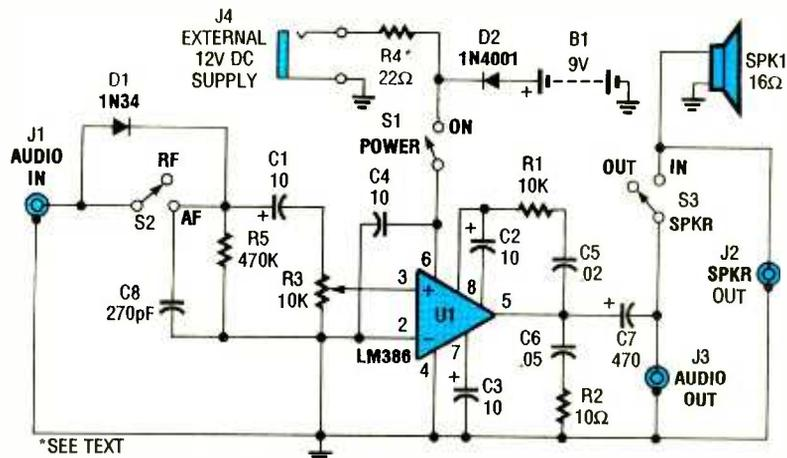

Fig. 1. The Test Bench Amplifier (which is designed as a "building block") is built around an LM386 low-voltage, audio-power amplifier (U1).
**The Continuity Tester.** Figure 1 is the schematic diagram of our simple Continuity Tester, which consists of a lamp (L1) and a battery (B1) con-
Fig. 1. The Continuity Tester is little more than a battery and a lamp connected in series, with one end of the string terminated in an alligator clip, and the other end connected to the probe tip.
**About the Circuit.** Figure 1 shows a schematic diagram of the Test Bench Amplifier (which is designed as a "building block" to allow it to easily be incorporated into a myriad of other projects). The circuit is built around an LM386 low-voltage, audio power amplifier (U1), which is easy to use, stable, and requires very few support components. The LM386 can deliver up to 0.4 watts with harmonic distortion below 1%. It can be powered from a supply voltage of anywhere from 4 to 12 volts, and has a quiescent current drain of 3 mA, making it ideally suited to battery-powered projects.